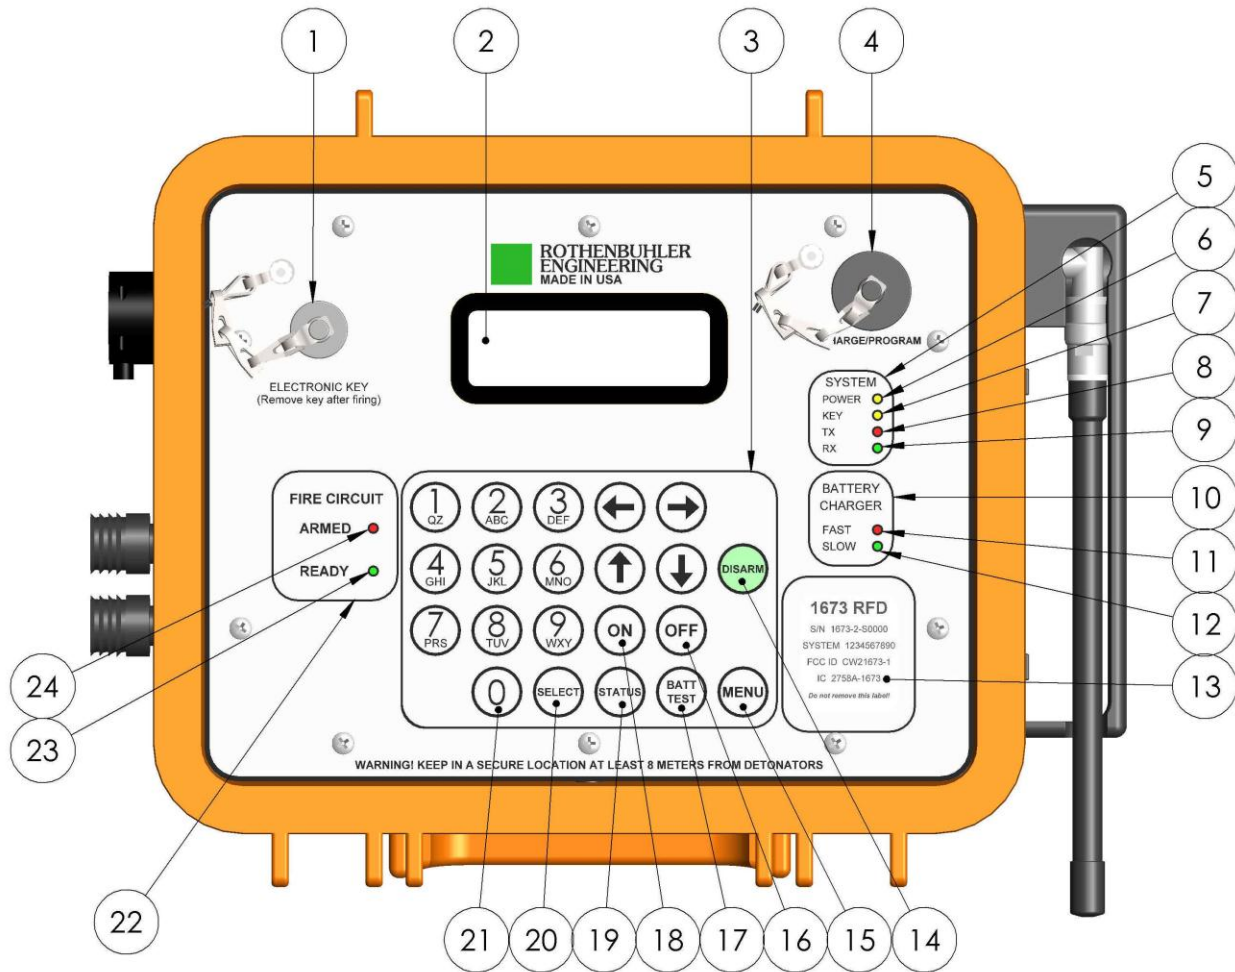

Figure 2-8 Remote Unit External Features
2.8.1. Figure 2-8 and Table 2-3 show the external features of the Remote Unit.